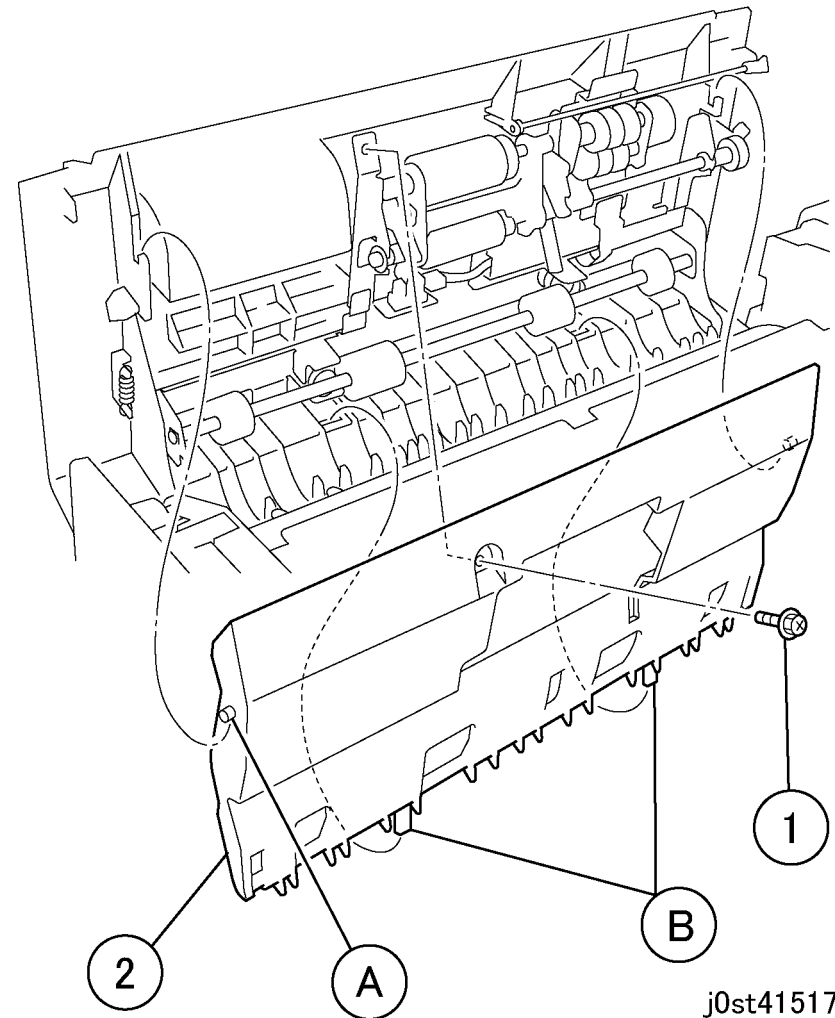

Figure 1 Removing the Feed Upper Chute
2. Remove the Feed Upper Chute. (Figure 1)